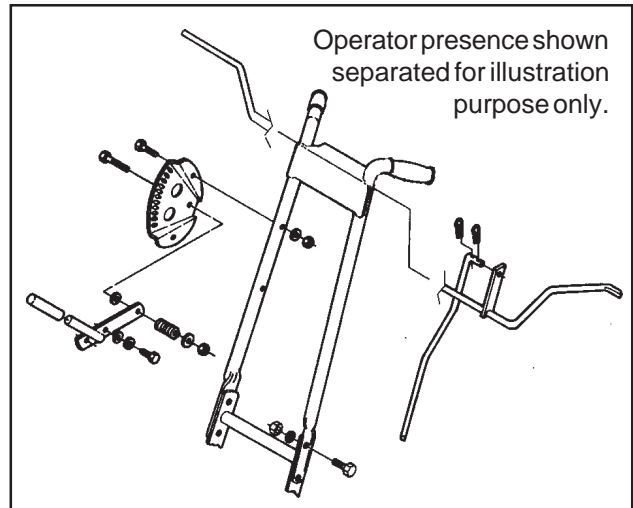
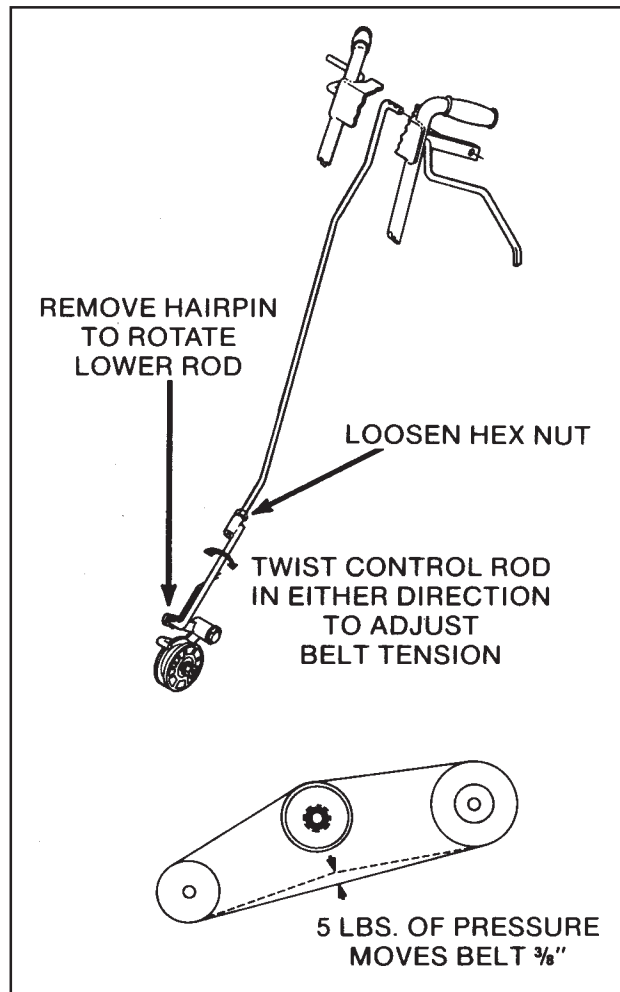

Figure 3, Handle Setup
Figure 4, Operator Presence Controls
1. Install the upper handle assembly with hardware as shown in Figure 3 using (4) 5/16-18 x 1" bolts, and (4) 5/16-18 elastic stop nuts.
2. Attach the height adjustment index to the upper handle assembly using (2) 5/16-18 x 1-1/2" hex head bolts, (2) 5/16 flat washers and (2) 5/16-18 elastic stop nuts.
3. Install the tube-type control rod on right hand side between the front wheel height lever and the index quadrant using (4) hair pin cotters to secure the control rod.
4. Install the operator presence safety control rod with the long rod at the top and the short rod at the idler pulley arm using (4) hair pin cotters. Adjust the length of the rod for normal belt tension (See Figure 4).